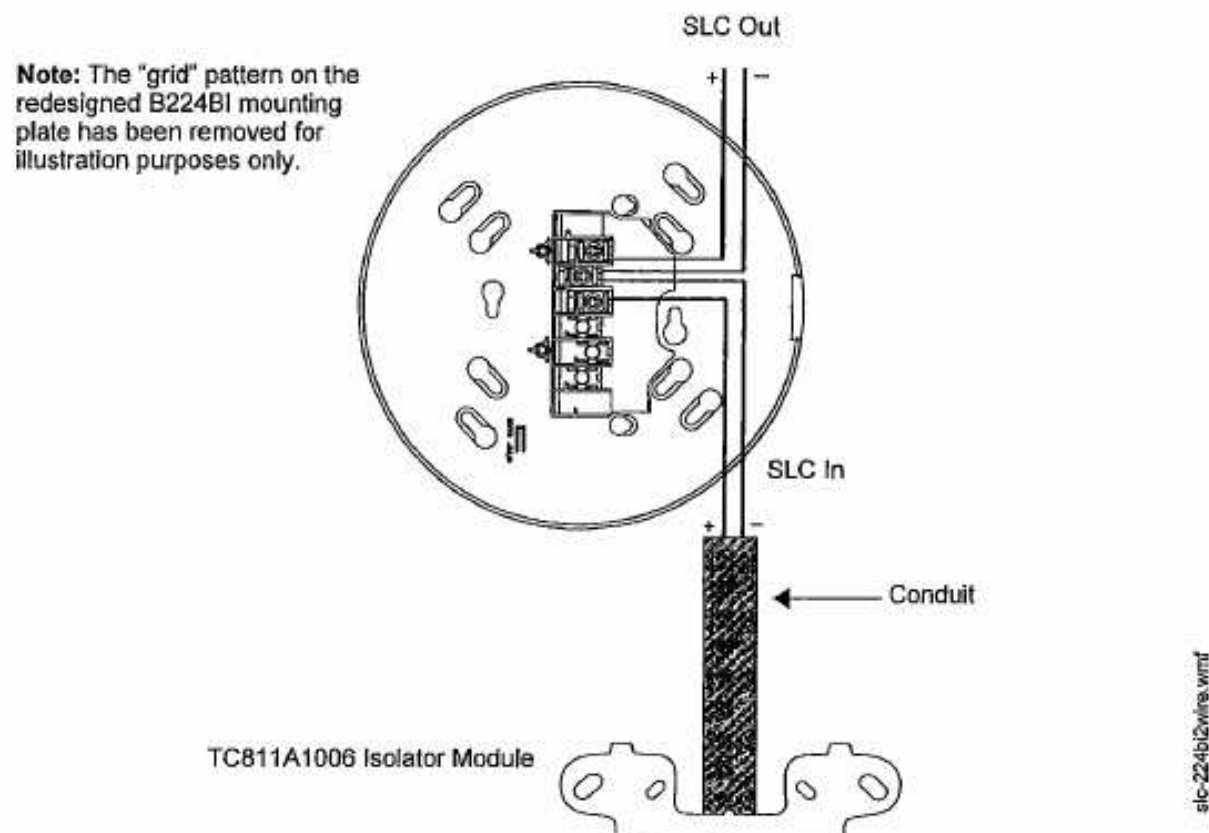

Figure 10.4 Wiring a B224BI Isolator Base Mounting Plate for FlashScan/CLIP Loops
- B224BI, 14507371-005 Isolator base (See Figure 10.4)